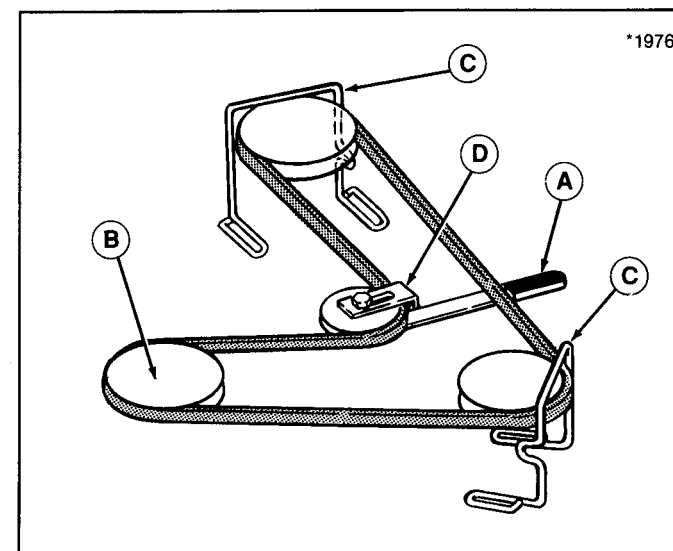

Figure 23.
2. If mower is not removed, place mower in low cut position. Push idler pulley arm (A, figure 23) away from you to relieve belt tension. Drop belt from electric clutch pulley (B).
3. Loosen belt stops (C) on arbor drive pulleys.
4. Loosen bracket belt stop (D) on idler pulley.
6. Position the bracket belt stop (D) up against arm (A) so that there is a 1/8" gap between pulley and belt stop.
7. Retighten the belt stops (C) on arbor drive pulleys with 1/8" gap between stops and pulleys.
8. Reinstall mower if removed, or reinstall belt to electric clutch pulley (B).